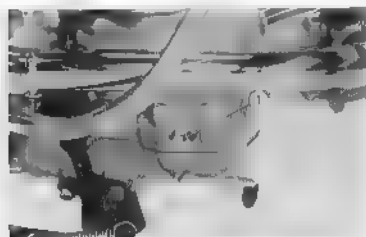

Fig. 5.22 Removing drain bolt
- a. Remove the oil cap and drain the engine completely of oil by unscrewing the drain plug (1) at the bottom of the engine. (Fig. 5.22)